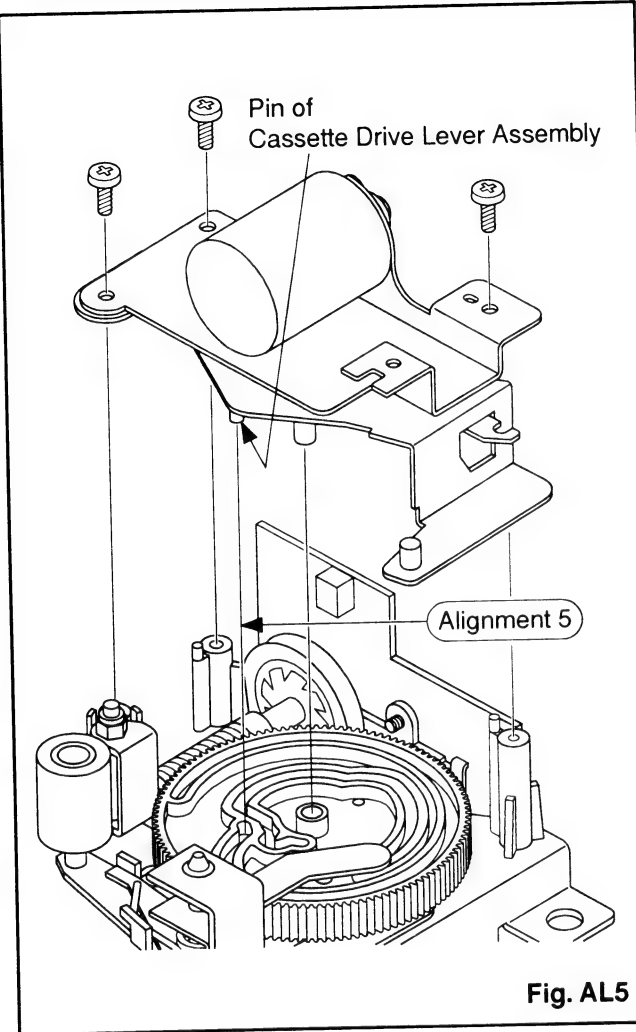

Fig. AL5
1. Ensure that the pin of Cassette Drive Lever Assembly is positioned in the groove of upper Cam as shown in Fig. AL5.